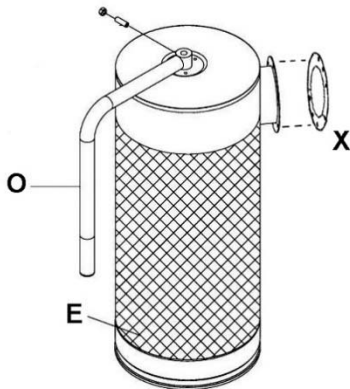

Figure 8
9. Install handle assembly (O) to canister filter (E) using set screw and nut. See Figure 8.